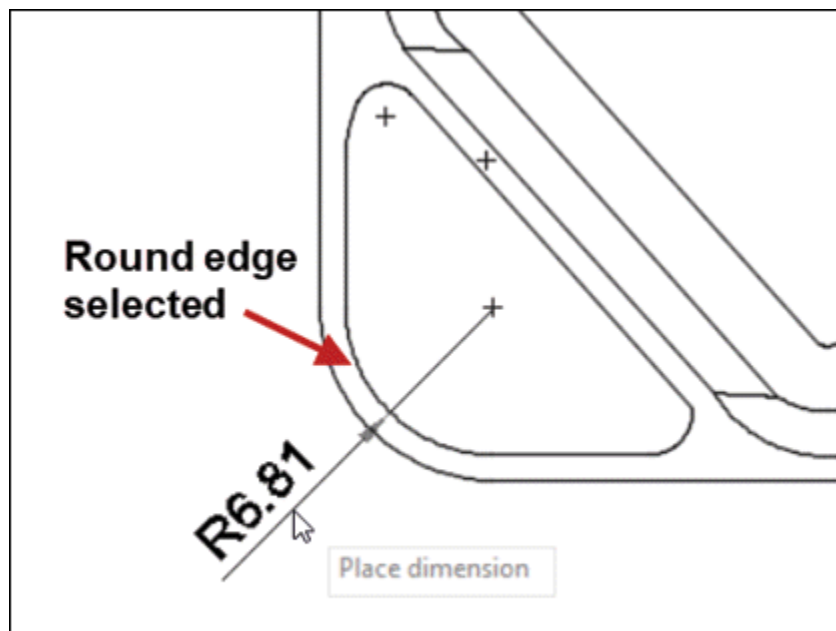

Figure-61. Creating radius dimension
- Click at desired entity. The radius dimension will get attached to cursor; refer to Figure-61.